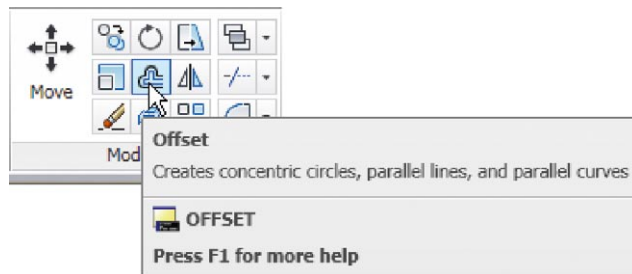
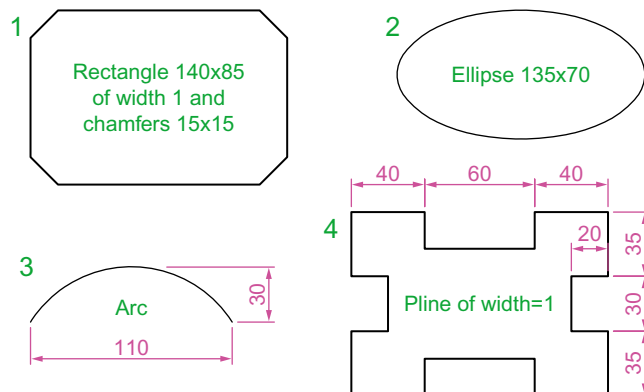
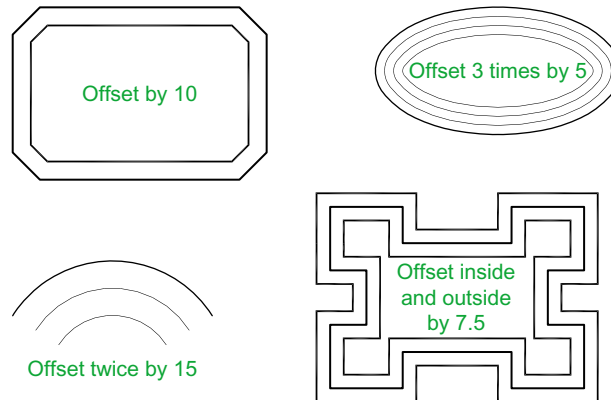

Fig. 5.12 The **Offset** tool from the **Home/Modify** panel
Fig. 5.13 Examples – **Offset** – outlines
Fig. 5.14 Examples – Offset
Examples – Offset (Fig. 5.14)
1. Construct the four outlines shown in Fig. 5.13.
2. Call the **Offset** tool – *left-click* on its tool icon in the **Home/Modify** panel (Fig. 5.12), *pick* the tool name in the **Modify** drop-down menu or *enter* **o** or **offset** at the command line. The command line shows (Fig. 5.13):
3. Repeat for drawings 2, 3 and 4 in Fig. 5.12 as shown in Fig. 5.14.